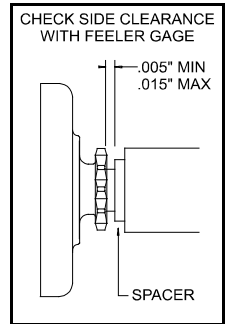

Figure 2
7. **Check end play. (See Fig. 2)**
When the Clutch is tightened securely to the shaft you should be able to spin the Drum freely. If the Drum does not spin freely, remove the Clutch and replace the Spacer with a new Spacer of appropriate width available from your authorized Horstman Dealer. A temporary solution would be to grind some material off of the original Spacer. The recommended minimum clearance is .005" and the maximum is .020". (See Fig 2) If you have over .020" clearance the Clutch may not be properly seated all the way onto the shaft, or you may be using the wrong sized Spacer.